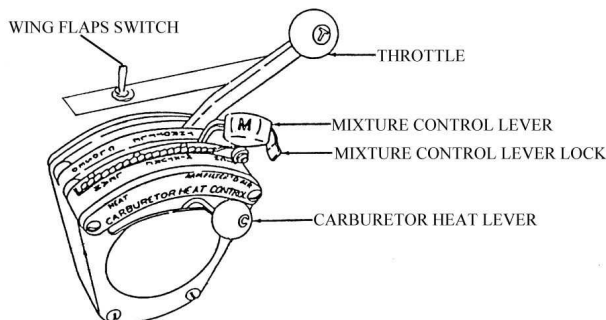

Figure 1-6 Engine Control Quadrant
19. The front cockpit has a three-position, spring-loaded wing flap switch mounted on the window ledge adjacent to the engine control quadrant (Figure 1-6). The switch positions are labelled FLAPS UP (forward) and FLAPS DOWN (aft). The centre position of the switch is the OFF position.